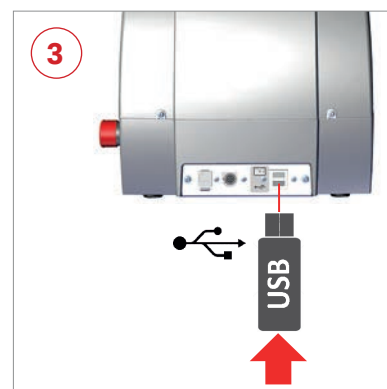

Fig. 22
- 3) Insert the USB PEN DRIVE into the special port on FUTURA PRO (Fig. 22). **Note: FUTURA has one USB port only.** Follow the instructions on the screen: tap the “RE-START FUTURA” button to re-start the FUTURA PRO machine.